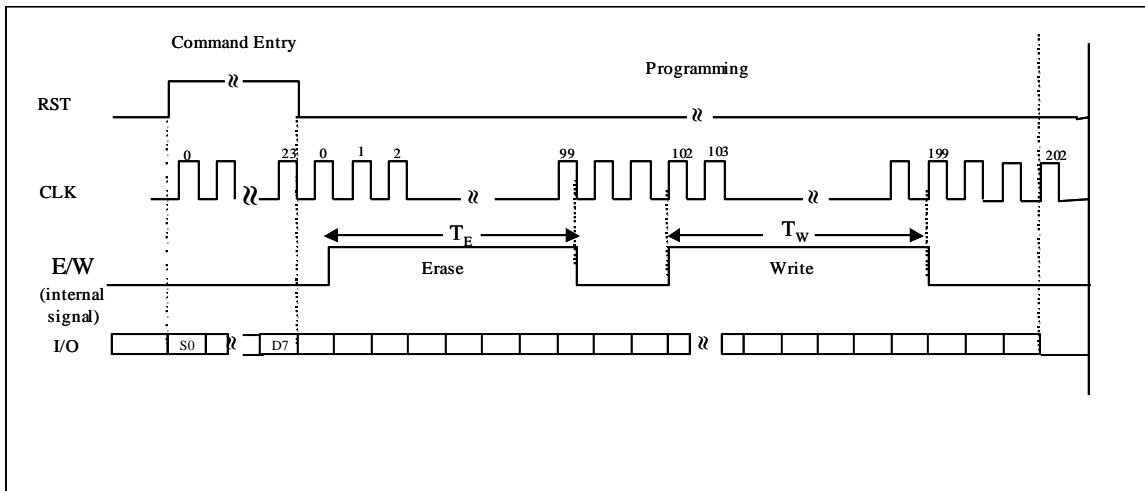

Figure 8: Programming Erase and Write
1. Erase and subsequent write if 203 clock pulses at  $f < 20\text{KHz}$  are applied. (See Figure 8).
The Write/Erase data byte with protect bit command operates similarly to the write/erase data byte with protect bit command except that it also writes 0 to the corresponding protect bit. After the protect bit is set to 0 (write protection enabled), it cannot be changed again. (See Figure. 8 and 9).